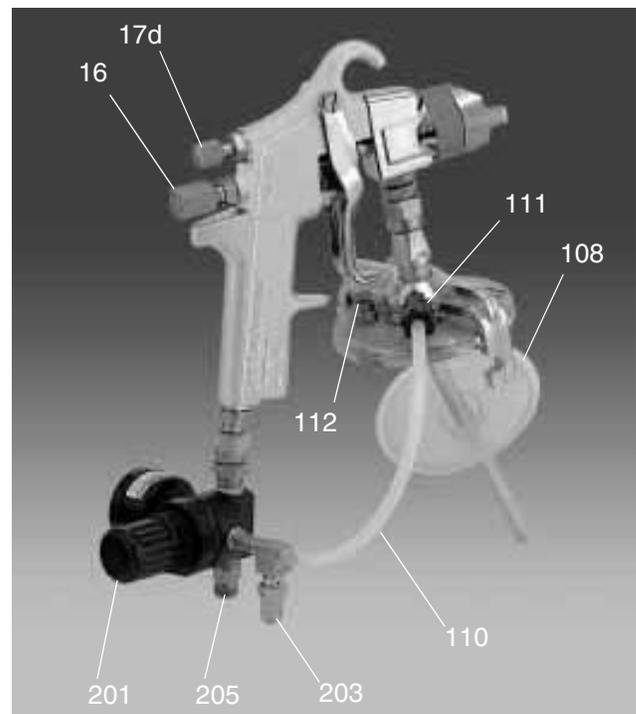
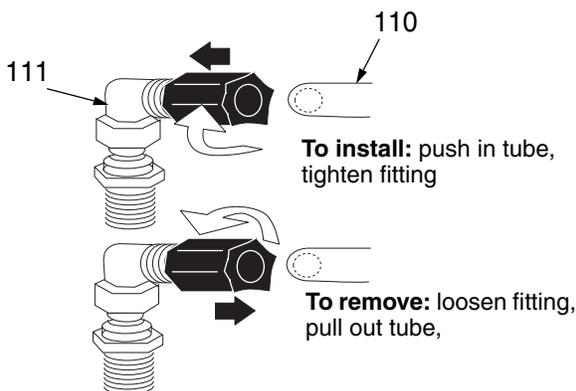

FIG. 1
FIG. 3
1. Install air pressure regulator (201) to the gun air inlet (9). See FIG. 1.
2. Install pressure tube (110) firmly onto regulator safety valve (203) tee.
3. Install pressure tube into cup pressure inlet fitting (111) as far as it will go then tighten fitting clockwise. See FIG. 3, page 5.
4. Pull out the air pressure regulator (201) knob and turn it counterclockwise until it stops. This shuts off air pressure to the gun.
5. Connect a clean, dry, filtered air supply to the gun air regulator inlet (205).
2. Disconnect pressure tube (110) from cup pressure inlet elbow (111). See FIG. 1.
5. Remove and clean shield (108), then reinstall it.
6. Reinstall cup, and connect pressure tube (110).
7. Close pressure relief valve (112) and spray into grounded metal waste container until equipment is clean.
Only disconnect the pressure tube (110) at the cup pressure inlet elbow (111). See FIG. 3.